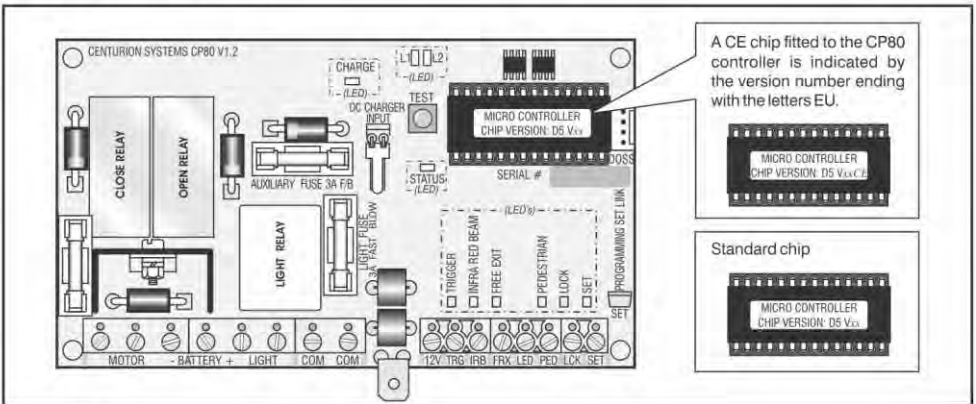
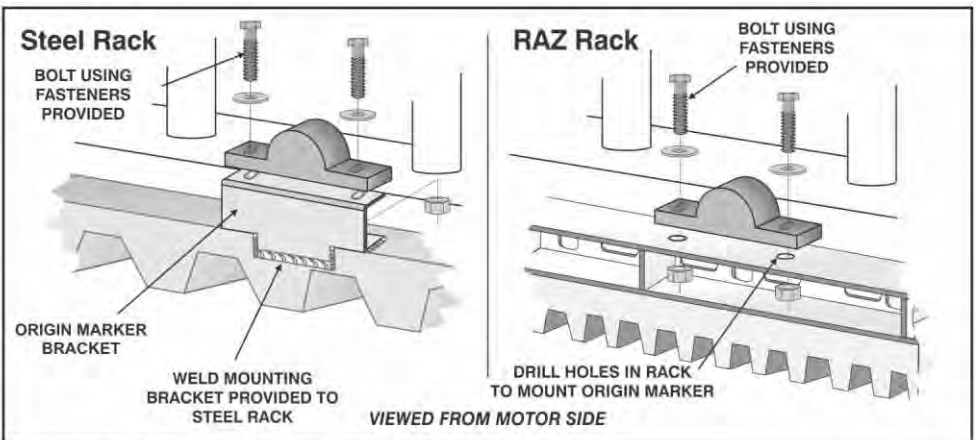
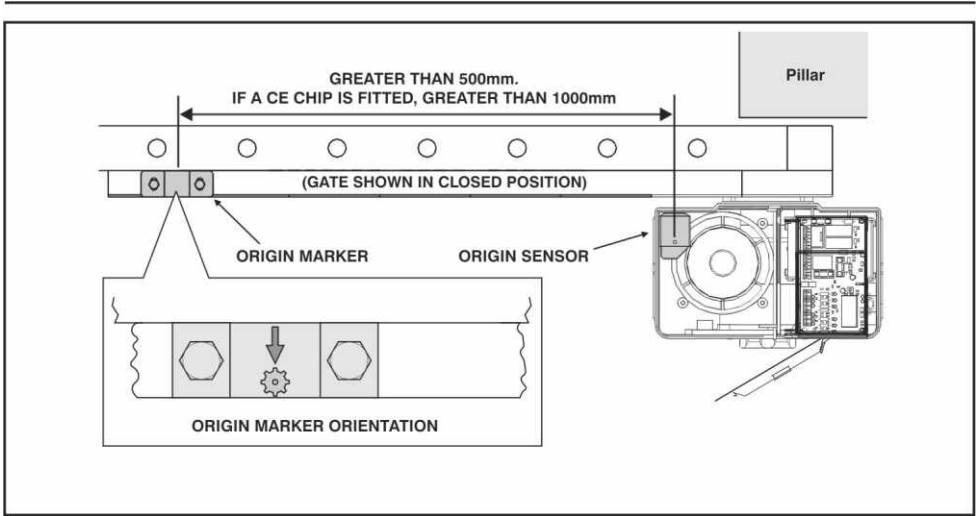

Figure 17 Chip Identification
Figure 18 Mounting the Origin Marker
Figure 19 Origin marker Location
12. Mount the origin marker to the rack (Figure 18) at least 500mm from the origin sensor (Figure 19). If a CE chip is fitted to the control card (Figure 17), mount the origin marker at least 1000mm from the origin sensor to allow for the longer crawl distance.